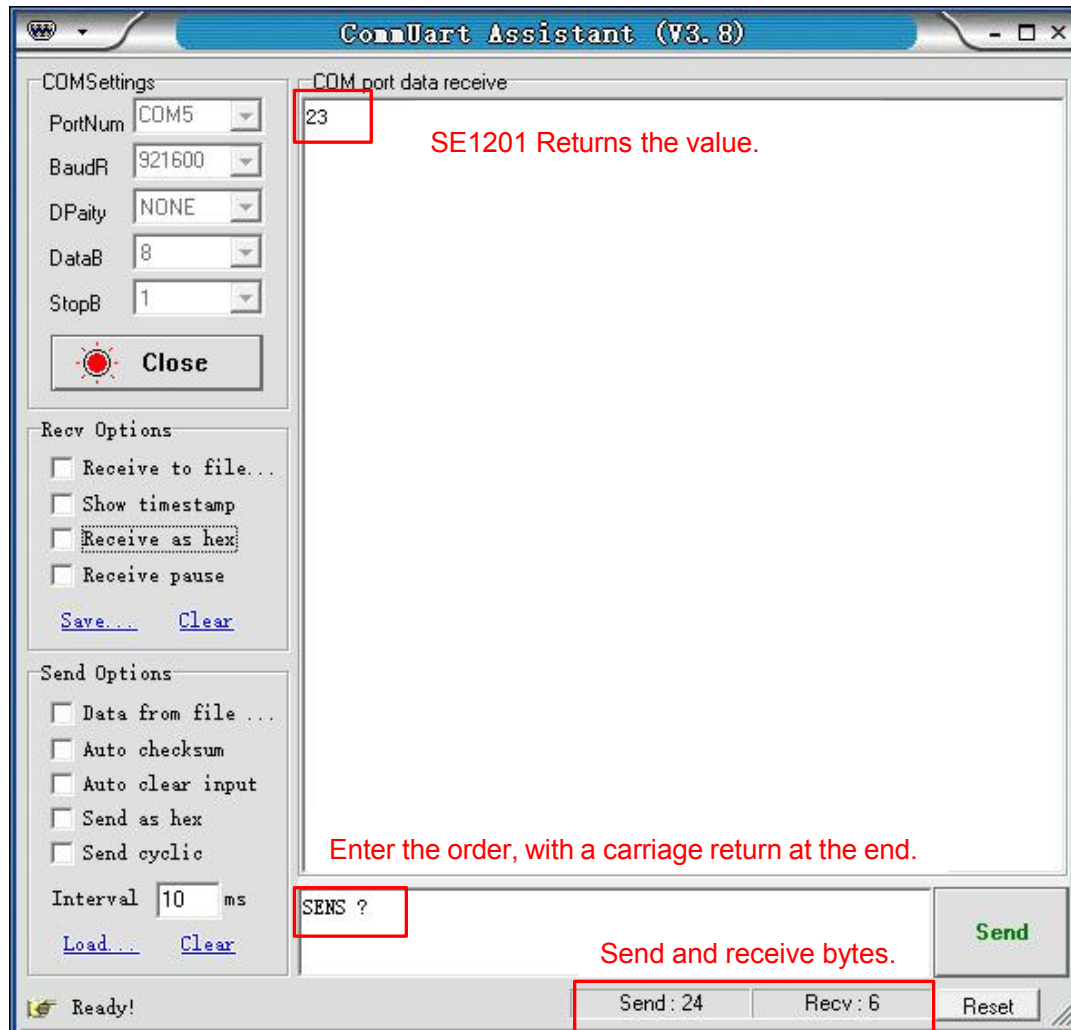
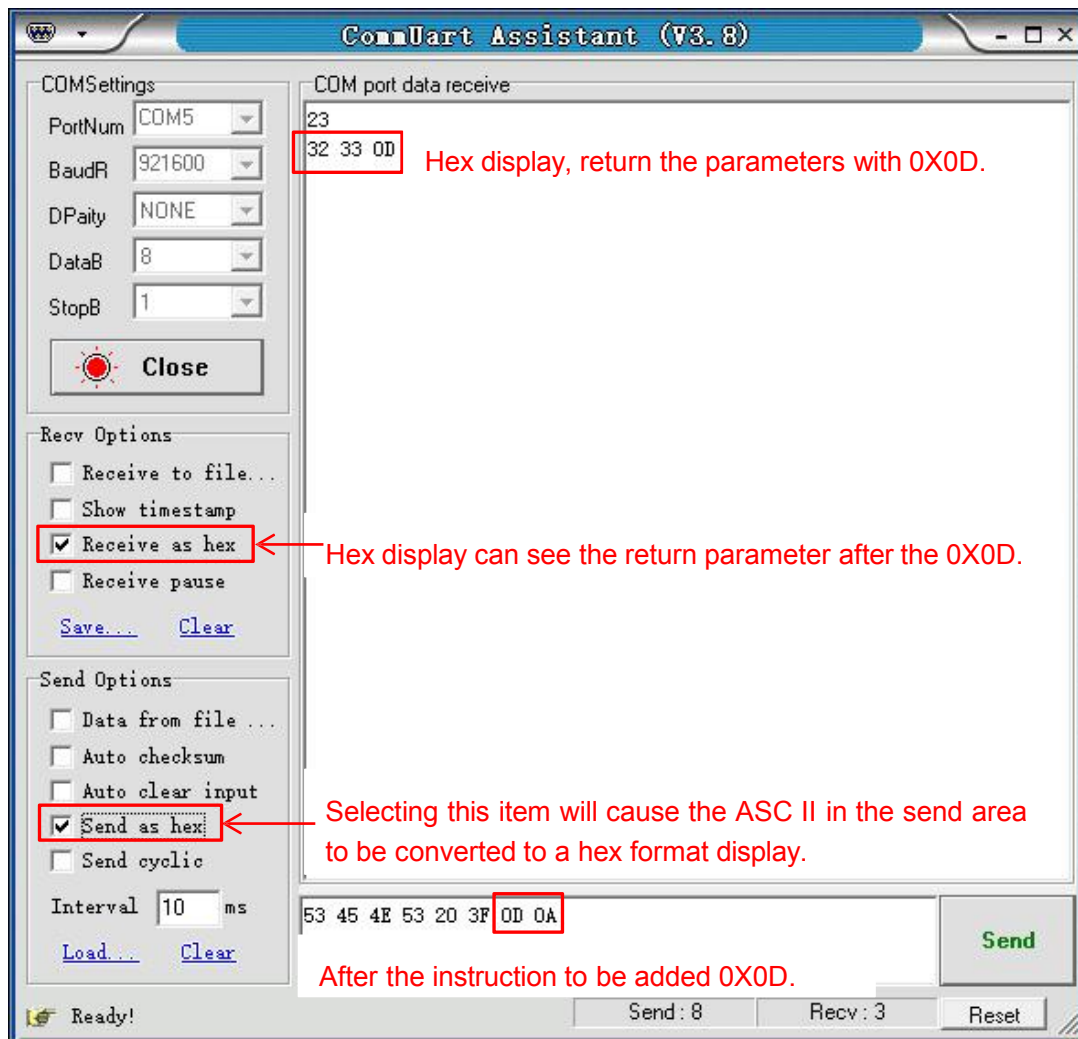

Fig.75 Send and Receive Commands in ASCII Words
Fig.76 Send and Receive Commands in HEX
(1) The commands consist of four upper mnemonics, option parameters and a terminator. Several commands at the same line are separated by semicolons. More details please see Chapter 4 Remote Programming. The terminator can be a carriage return <cr> or a hexadecimal number 0D. When sending the command, first input the command in the sending area, then press the Enter key, then click the 'Send' button, the command will be sent. As shown in Fig.75 and Fig.76.